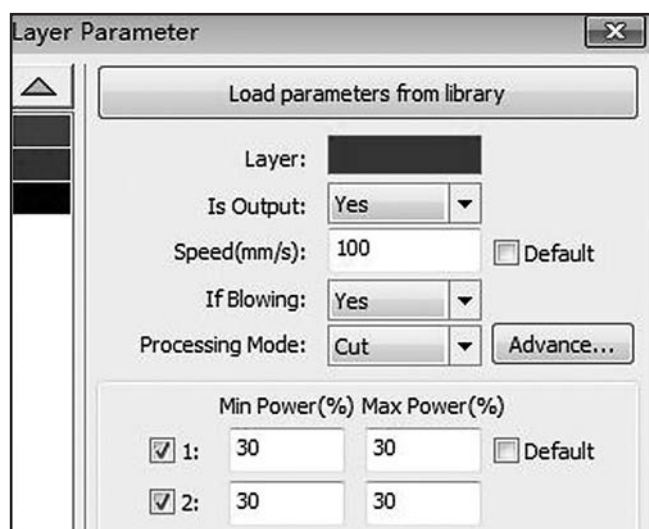

Figure 35. Layer Parameter dialog box.
6. Set "Processing Mode" to "Cut" or "Scan" as desired (see **Figure 35**).
7. Set "Min Power (%)" and "Max Power (%)" as desired (see **Figure 35**).